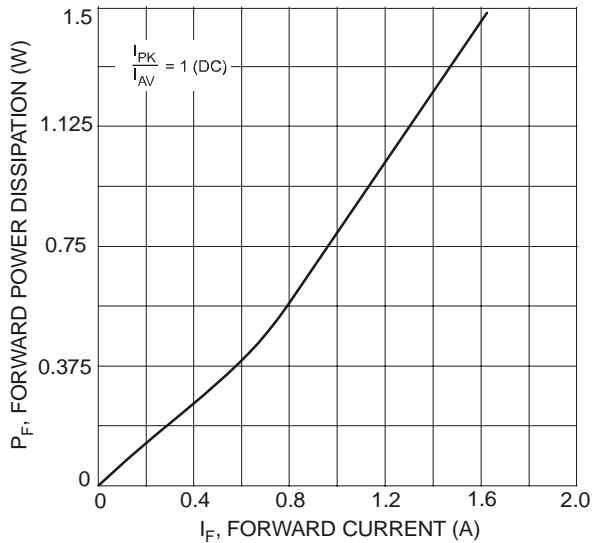

Fig. 5 Forward Power Dissipation
4. Measured with IF = 0.5A, IR = 1.0A, Irr = 0.25A. See figure 5.